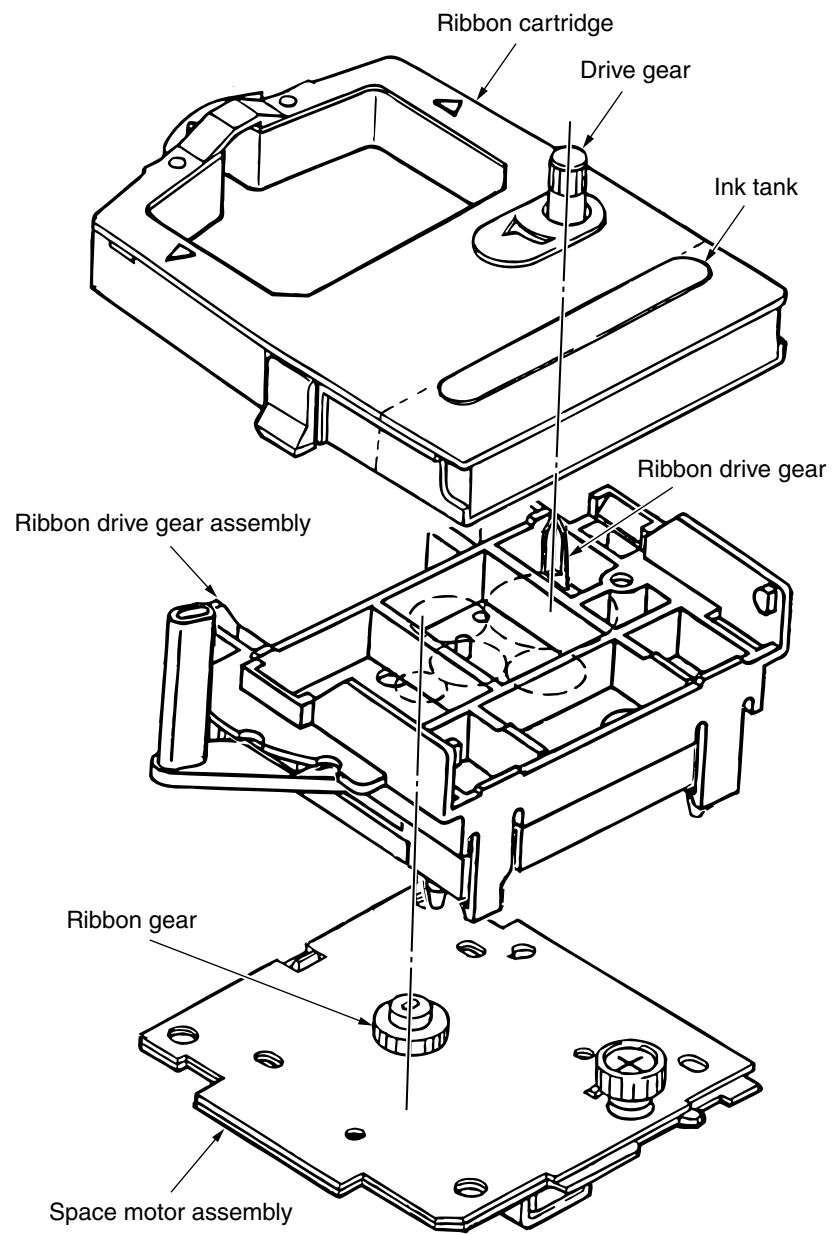

Figure 2-6
2.2.4 Ribbon drive operation (See Figure 2-6.)